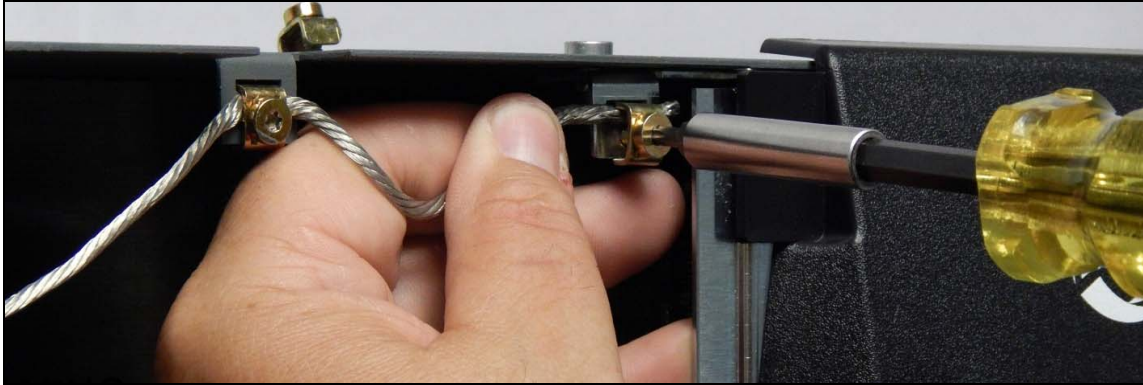

Figure 6. Remove Ground Wire From Display Door
5. Remove the Ground wire at the top of the Display door (see Figure 6).
24. Replace the ground wire to the Display door (see Figure 6).
9. Replace the ground wire to the Display door (ref. Figure 6).